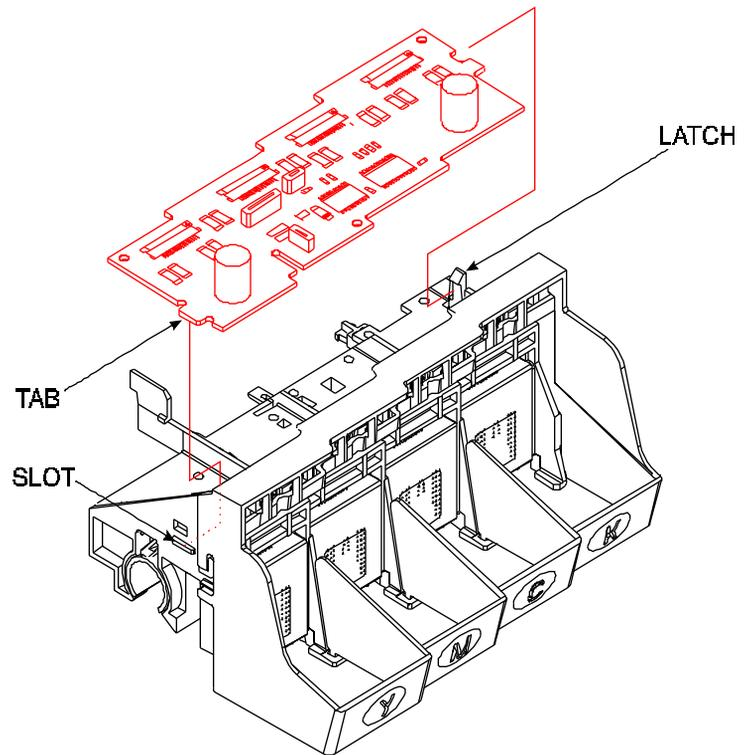

Figure 5-7. Carrier PCB Removal/Installation.
4. Unlock the latch on the right end of the Carrier Assembly and lift up the right end of the Carrier PCB. See Figure 5-7.
1. Put the tab on the left end of the Carrier PCB into the slot in the left side of the Carrier Assembly. See Figure 5-7.